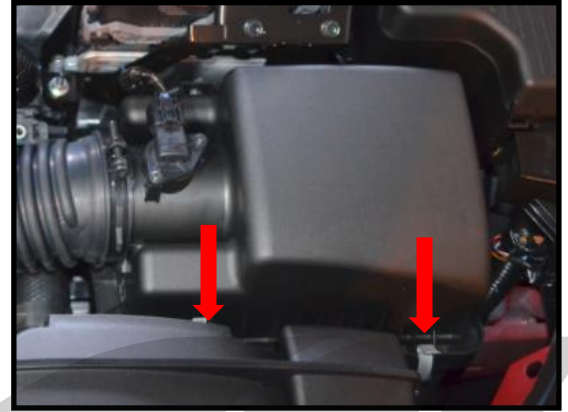

Figure 1f
g) **Disconnect the MAF wiring and pull up on air box lid and remove it from the car** (Figure 1f). You will need needle nose pliers to compress the sides of the wiring harness tie down.